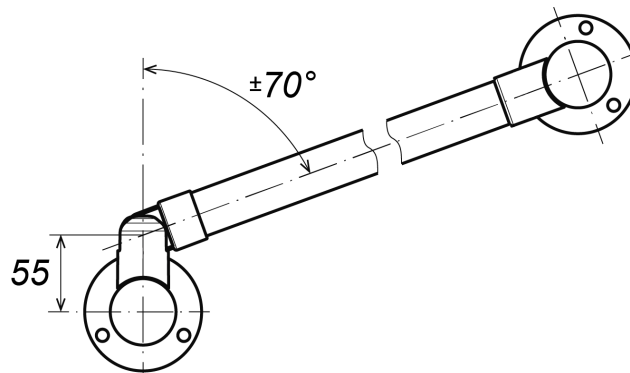
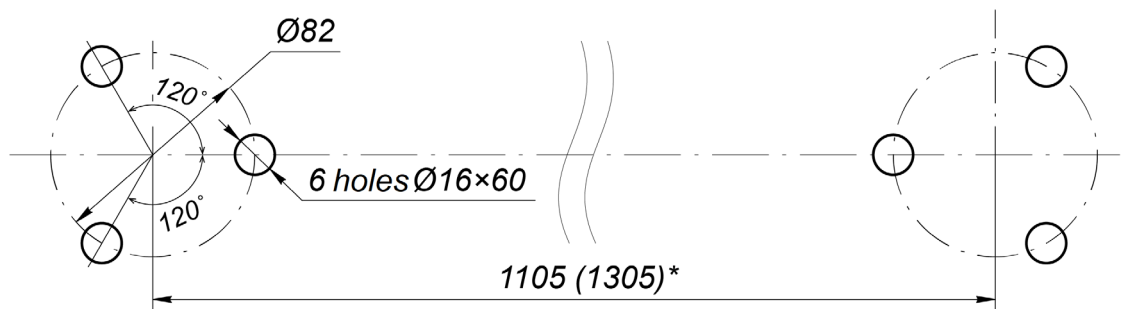
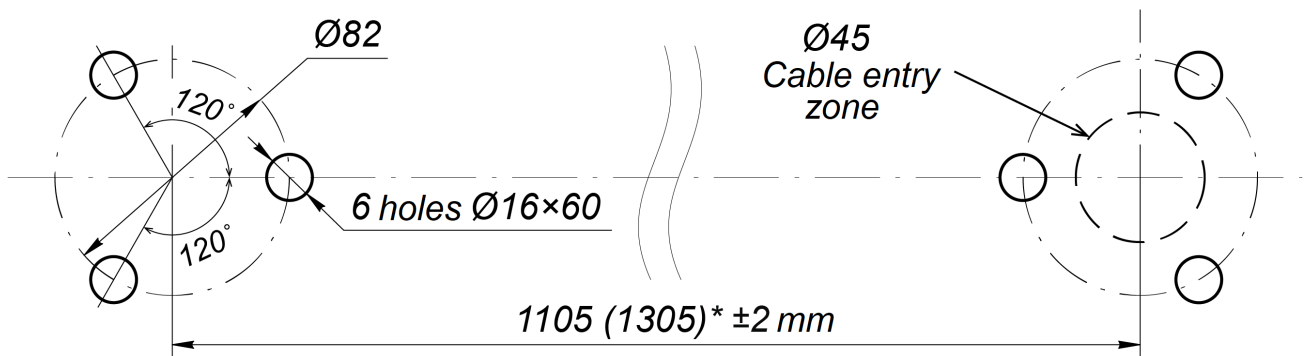

Figure 11. Available turning angles for BH02 0-11 adjustable coupling fitting
Figure 14. Holes for anchor bolts in flanges of rotary railing section posts¹
Figure 18. Holes for anchor bolts in flanges of rotary railing section posts with electromagnetic BD
3. Mark the points of flange fastening of vertical and support posts as depicted on Figure 11 and Figure 14 – each of two groups consisting of three Ø16×60 holes for M10 anchors.
2. Mark out the centers of railing posts. Provide following distance between posts - 1105±2 mm (for 1 m railing section) and 1305±2 mm (for 1.2 mm railing section) in order to secure normal operation of electromagnetic BD (see Figure 18 and Table 4).
3. Mark fixing points of post flanges of railing sections, as depicted on Figure 11 and Figure 18 – three Ø16×60 holes (M10 anchors) for each of two posts.
4. Prepare cable duct in the floor for power cable and control cable (see Figure 18).